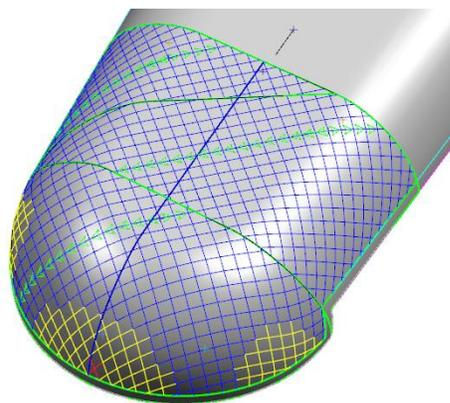

Figure 4–44
10. Run Net Producibility on the spliced plies, **P007-A, P007-B, and P007-C**. The results display as shown in Figure 4–44.